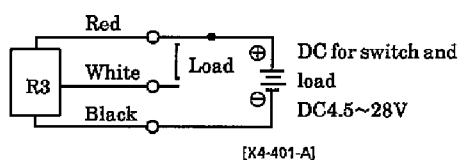

Fig.3 An example of basic circuit (1)(Power for switch and for load is on a common wire.)
- Install some protective circuit as per illustrated in Figs. 3, 4, or 5 respectively in case lead cord length is longer than 10m.